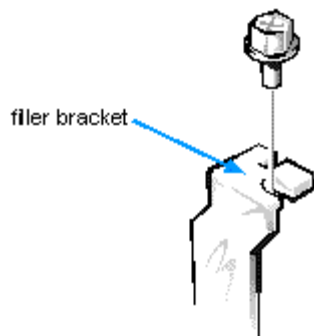

Figure 6-4. Removing the Filler Bracket
4. Unscrew and remove the metal filler bracket that covers the card-slot opening for the expansion-card connector you intend to use (see Figure 6-4).